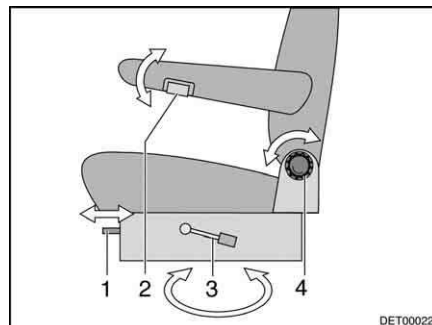

Fig. 2 Driver's and front passenger's seats
- Push the lever (Fig. 2,3) down.